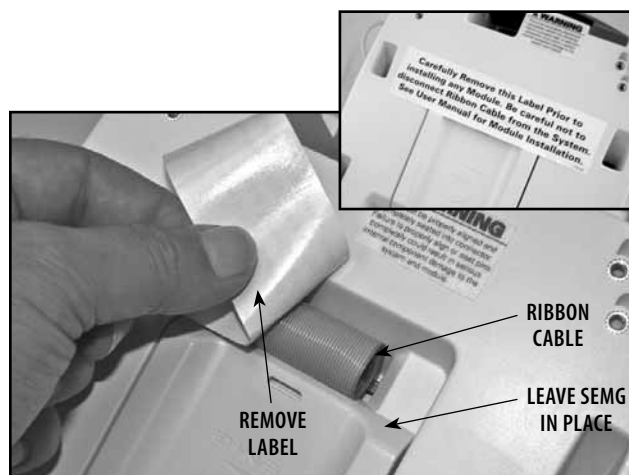

FIGURE 6.4
6. Turn system over, remove the label covering the Ribbon Cable and unroll Ribbon Cable. See Figure 6.4.